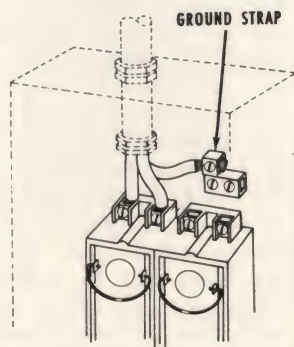

FIG. 23—SERVICE ENTRANCE TERMINALS
**NOTE:** Service entrance switch should be installed inside of building within one foot of place where conduit enters wall. Always connect the black and red incoming wires to the heavy terminals of the entrance switch (Fig. 23).
Secure cable to building every 2 feet with metal straps (Fig. 26-D) and anchor to meter socket with watertight connectors (Fig. 26-C). From meter, run cable down wall to hole drilled through side of building and connect to service entrance switch, which should be within one foot of point where cable passes through wall. Wire connections at the entrance switch are the same as for conduit. (See Fig. 23.)